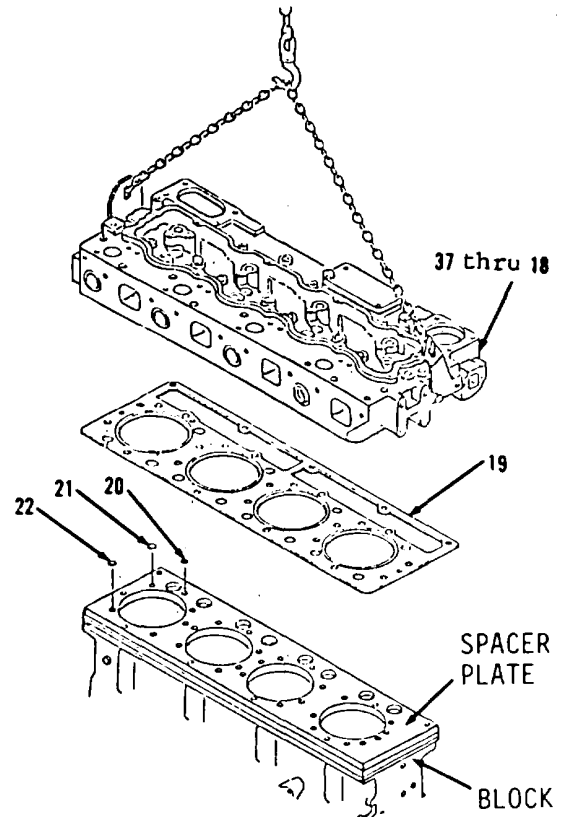

Figure 3-37.
1. Position 12 new seals (22), four new seals (21) and new preformed packing (20, Figure 3-37) on machined spacer plate.
2. Install new gasket (19) over spacer plate on dowels in block.
4. Using hoist and sling, position items 37 thru 18 as an assembly over engine. Aline with dowels in block and install.